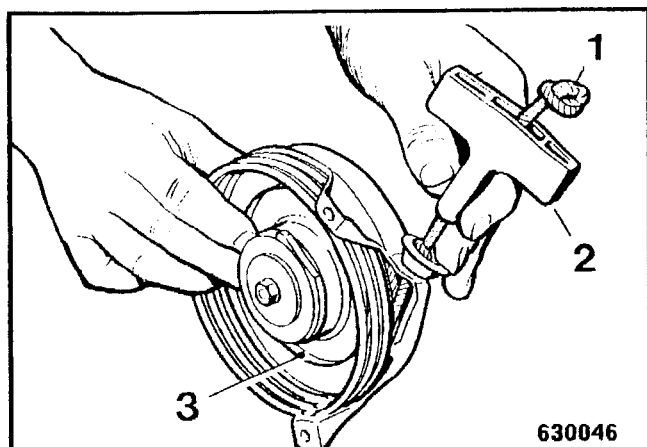

Fig. 1
- Hold the rope disc 3 (Fig. 1).
- Undo the knot (1).
- Remove the handle (2).